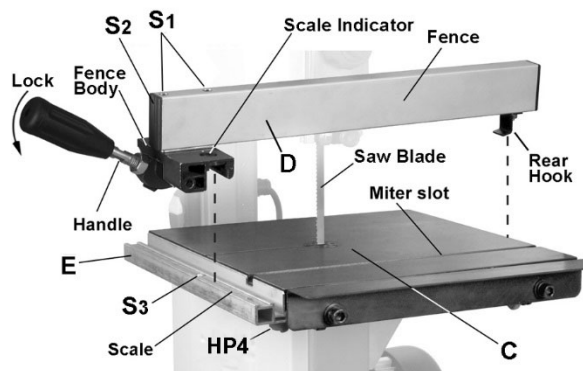

Figure 7
Refer to Figure 7:
2. Place fence assembly (D, Figure 7) onto table at the miter slot.